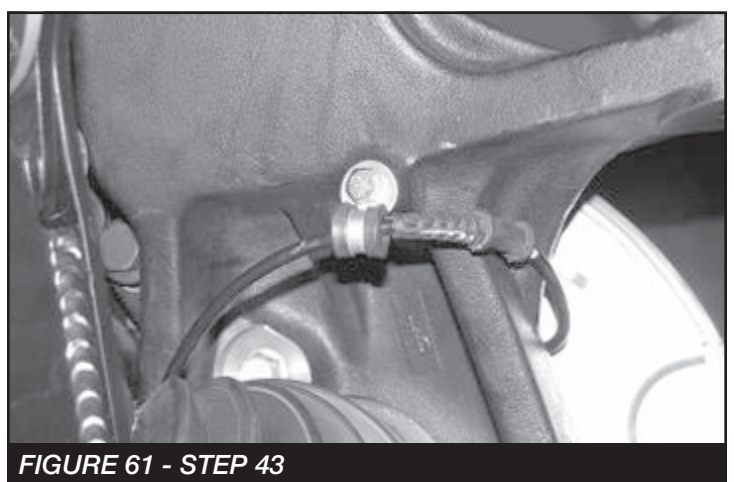

FIGURE 61 - STEP 43
43. Re-route the brake hose and the ABS Line to the steering knuckle using the adel clamp to the back of the steering knuckle and attach with $\frac{1}{4}$ " x $\frac{3}{4}$ " bolt and washer. Torque to 10 ft-lbs. Route the ABS line next to the brake hose. Re-connect the ABS line to the harness in the wheel well. Using provided plastic tyrap secure line to the hose and away from the tire and wheel. **SEE FIGURE 61**